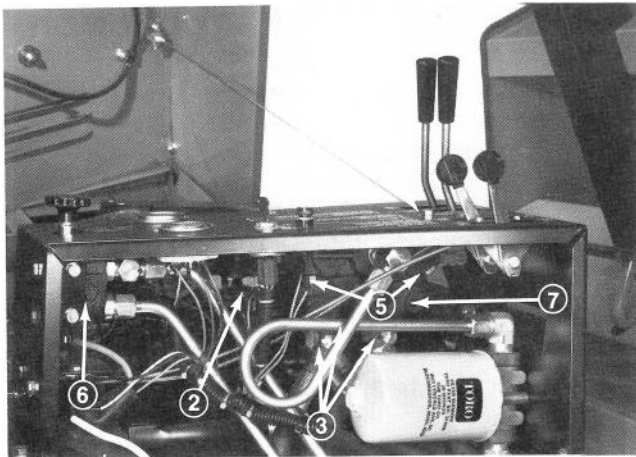

Figure 81
**DAILY CHECKS:** Check the hydraulic fluid level daily. Replenish with SAE 10W-30 or 10W-40 engine oil as necessary. Also, check daily for leaks, chafed or otherwise damaged hoses and make sure there are no kinks, sharp bends or twists in any flexible line. Repair or replace as necessary. (Fig. 81).
1. Open engine cowl, place drain pan under valve, remove knob, hydraulic lines from valve, and fittings (Fig. 81 and 82).